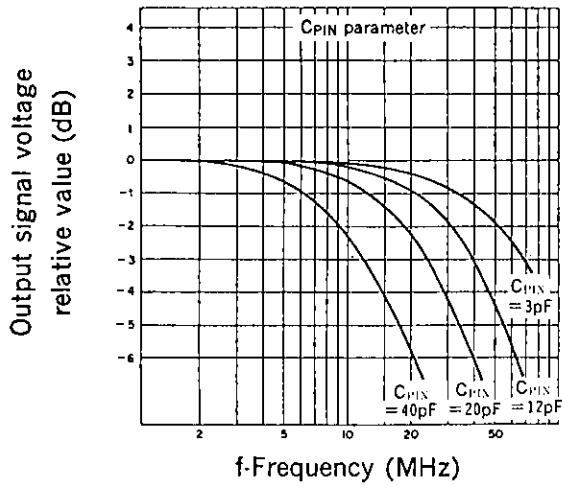

Fig. 6
- The frequency characteristics of output signal can be adjusted by varying the equivalent capacitance value of the photodiode. (See Fig. 6)